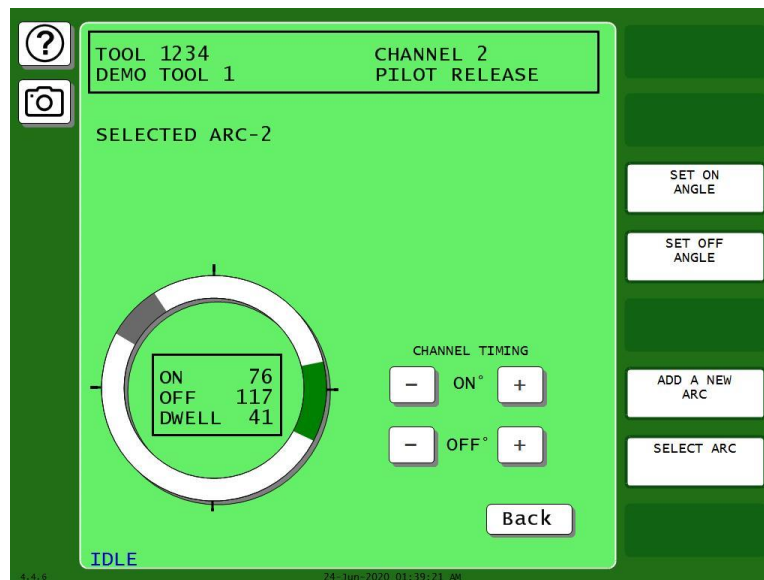

Figure 7-11. Cam Channel On/Off Program Screen: Two On/Off Arcs
- Program the second arc. Figure 7-11 shows the Cam Channel On/Off Program screen with Arc 2 programmed for an On Angle of 76° and an Off angle of 117°.